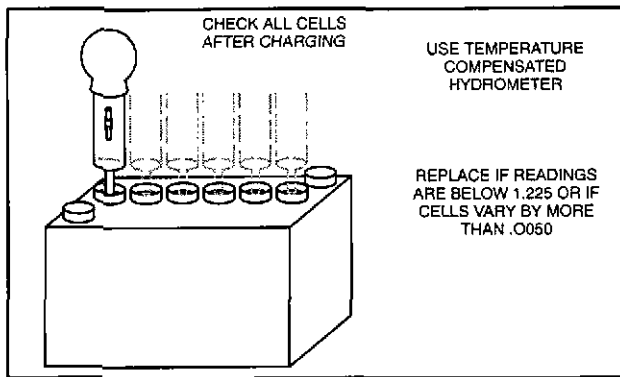

Fig. 36 - Checking 12 V Battery Cells (Lead Acid, Wet Cell, Dry Charge)
4. With battery fully charged, check specific gravity readings of each cell with a Battery Hydrometer and record readings (Fig. 36). All readings should be above 1.250 (compensating for temperature). If specific gravity readings varied .50 or if all cells read less than 1.225, replace battery.